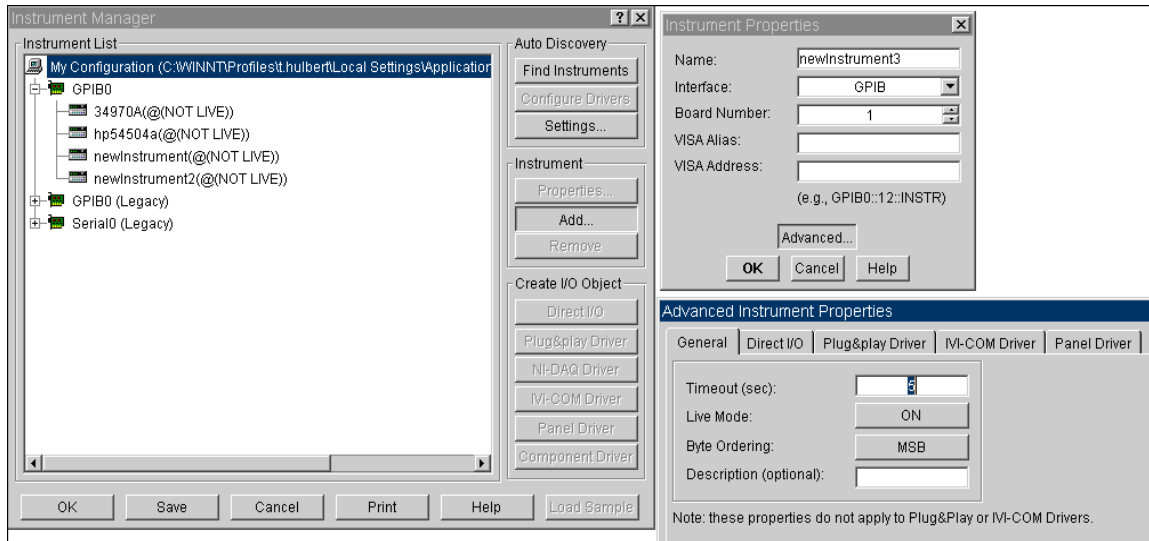

Figure 2-2 Instrument Manager programmed for a virtual scope
- 12 Scroll horizontally until you reach hp54504a.cid; click on it. See Figure 2-2 which contains all the boxes open.